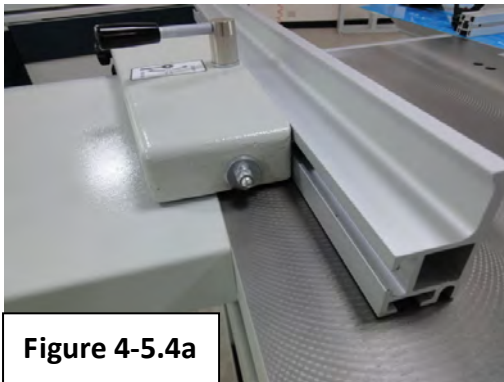

Figure 4-5.4a
1. Vertical position (Fig. 4-5.4a) turn to the work piece